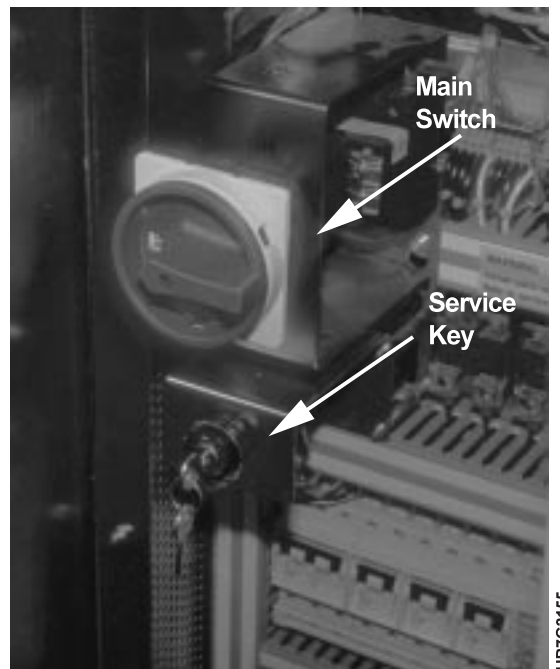

Figure 231. InfoColor 70 Main Switch and Service Key
- 2 Turn the service key counterclockwise 90°, as shown in Figure 231.